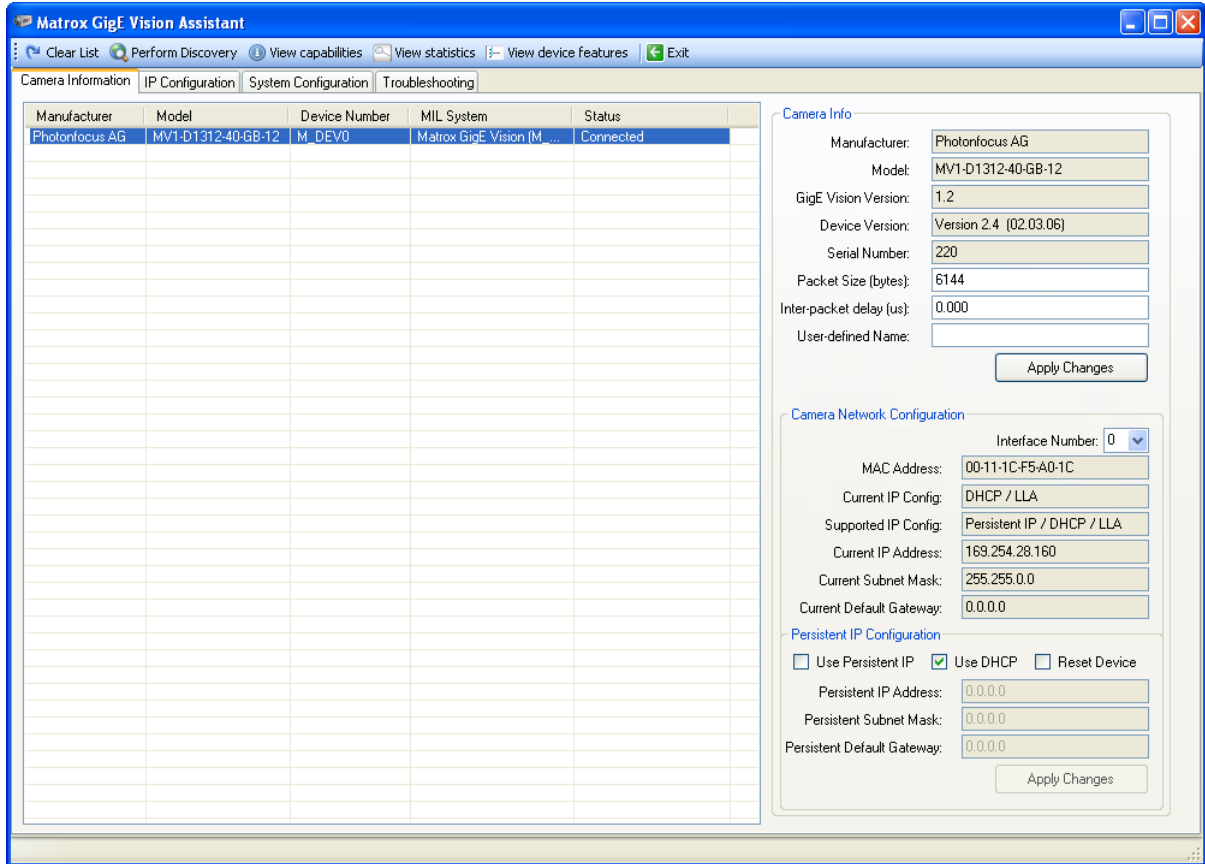

Figure 5.4: Matrox GigE Vision Discovery and Configuration Assistant
- The Photonfocus camera should appear in the camera list (see Fig. 5.4). If it doesn't appear then click on the Perform Discovery button. Changes in the IP configuration can be made in this tool.